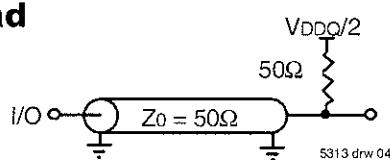

Figure 1. AC Test Load
| AC Test Load | See Figure 1 |
- 4 These parameters are guaranteed with the AC load (Figure 1) by device characterization. They are not production tested